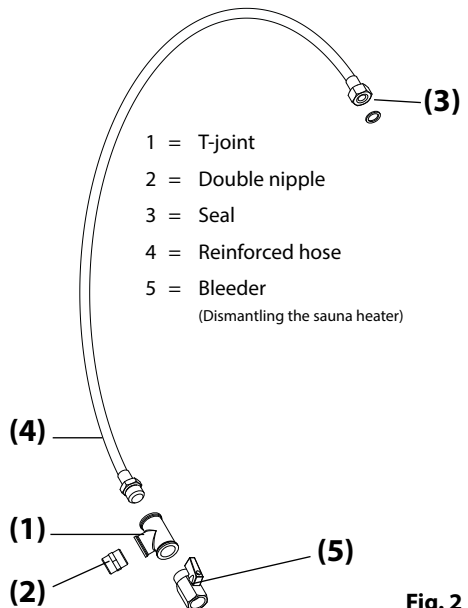
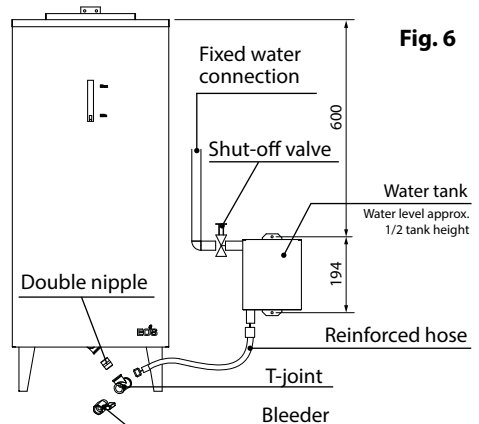

Fig. 2
Fig. 6
- Drill the fixing holes \varnothing 3.4 mm according to the sizes in fig. 6
- Make the connection between the water tank and vaporiser according to fig. 2 and fig. 6.